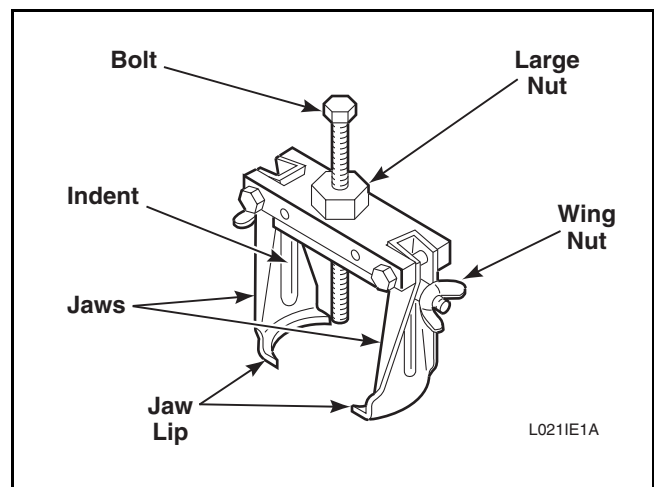

Figure 21
- Back bolt out of 294P4 Drive Bell Tool approximately three quarters of the way. Refer to *Figure 21*.